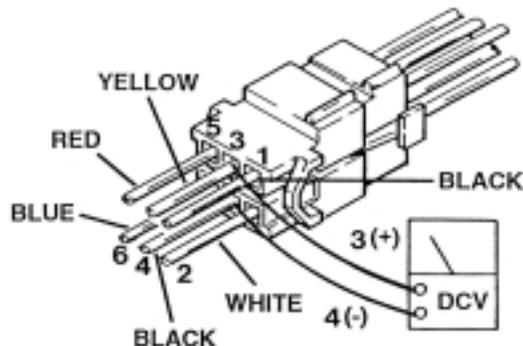

Figure 6-6. Connector CN12 Test
2. With AC120V power ON, use a DC voltmeter to test pin 3(+) and pin 4(-) of CN12. DO NOT disconnect connector CN12. See figure 6-6
The BATTERY and AC120V power ON indicators can be checked with an LED tester. Test BATTERY indicator at pin 1(+) and pin 2(-) of 19 pin Pendant Control connector. Test AC120V indicator at pin 1(+) and pin 3(-). See figure 6-6.